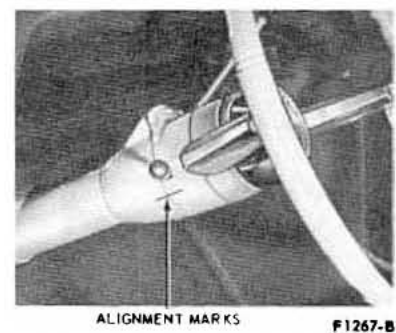

Fig. 75—Typical Straight Ahead Position Marks
2. Drive the car in a straight line far enough to establish the straight-ahead position of the front wheels, and then mark the steering wheel hub and the steering column collar (Fig. 75). **Do not adjust the steering wheel spoke position at this time.** If the front wheels are turned at any time during the inspection, align the marks to bring the wheels back to the straight-ahead position.